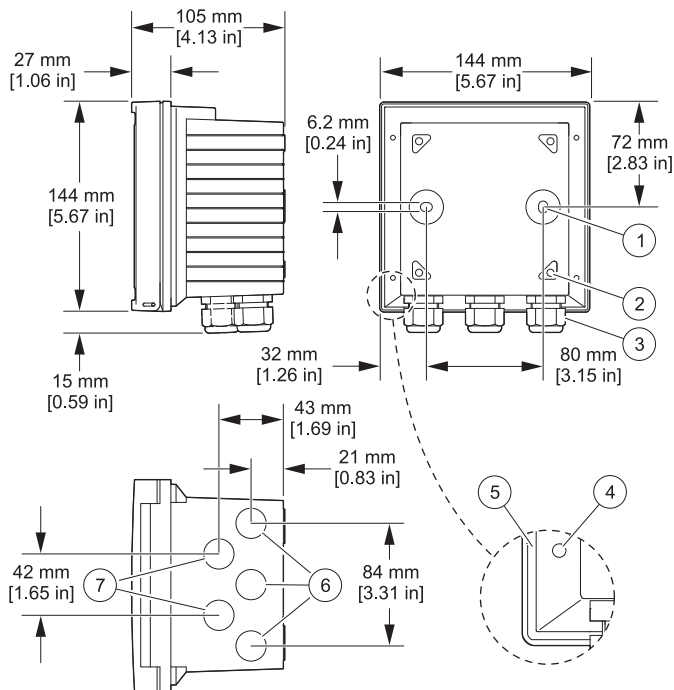

Figure 2 Wall attachment dimensions
1. Insert the strain relief fittings in the holes of the back enclosure and secure with the hex nuts (Figure 2).
1. Use a punch to open the two wall-mount holes in the back enclosure (Figure 2).
Refer to Figure 2 and the instructions supplied with the panel and pipe mounting kits (see Accessories on page 79).